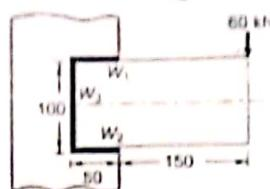

Fig.3.
- b) A welded connection, as shown in Fig.3., is subjected to an eccentric force of 60 kN in the plane of 6M welds. Determine the size of the welds if the permissible shear stress for the weld is 100 MPa. Consider all dimensions shown are in mm